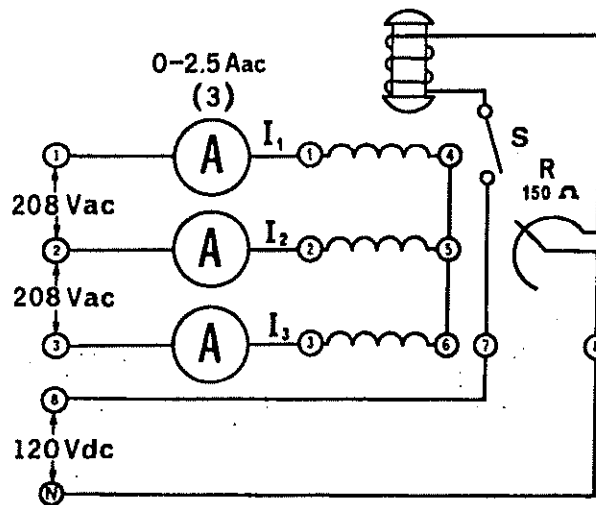

Figure 8-1.
- 1. Because of its constant running speed, the synchronous motor will be used to mechanically drive the DC generator. Using your Power Supply, AC Ammeter and Three-Phase Synchronous Motor/Generator, connect the circuit shown in Figure 8-1.